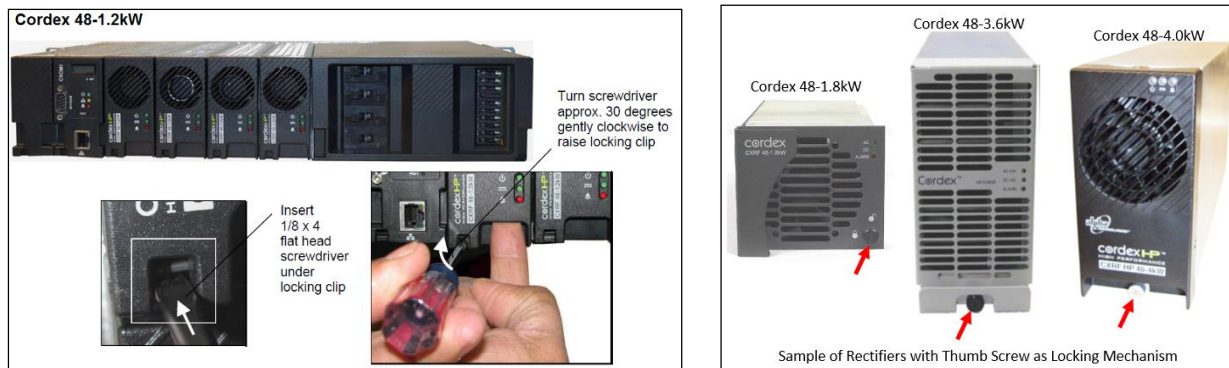

Figure 1: Example of Cordex rectifier locking mechanism
3. Locking mechanism differs from one type of rectifier to another (Figures 1 & 2). It could be a thumb screw, a locking clip or locking handle. See below samples of different locking mechanisms and how to unlock rectifiers.